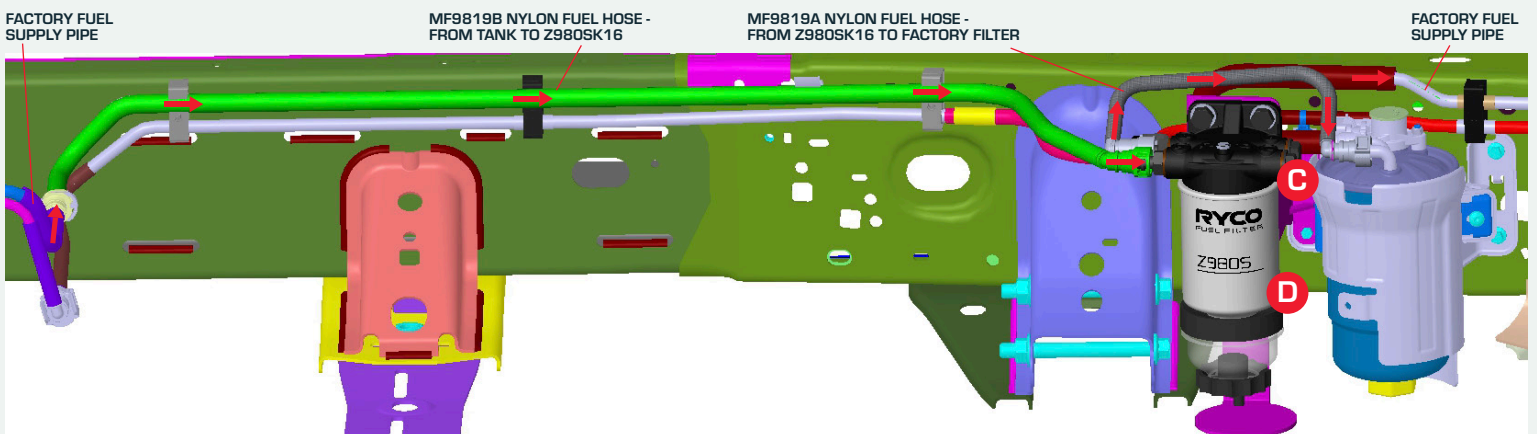

FIGURE 9
- 9 The fuel supply lines are preformed and should not require to be bent in any way. Carefully slide through mounting points and then ensure you have secured the locking tabs.. Ensure the locking tab is engaged. Check the fuel pipes routing to ensure they're not kinked. (See FIG. 9)